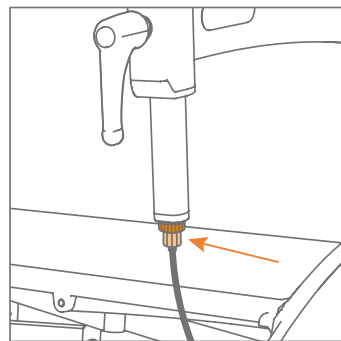

Figure 71: Brake adjustment via the adjustment screw, just below the locking ring.
- b. First loosen the locking ring (pull the cable down to make it easier). This gives you the space to tighten or loosen the adjustment screw under it **(Figure 71)**.